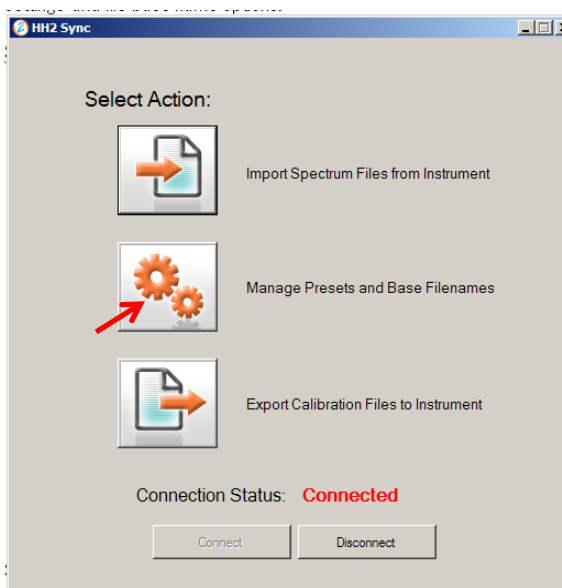

Figure 3-52: Presets button
Step 1 To adjust these presets, click on *Manage Instrument Presets and Base Filenames* (Figure 3-52).